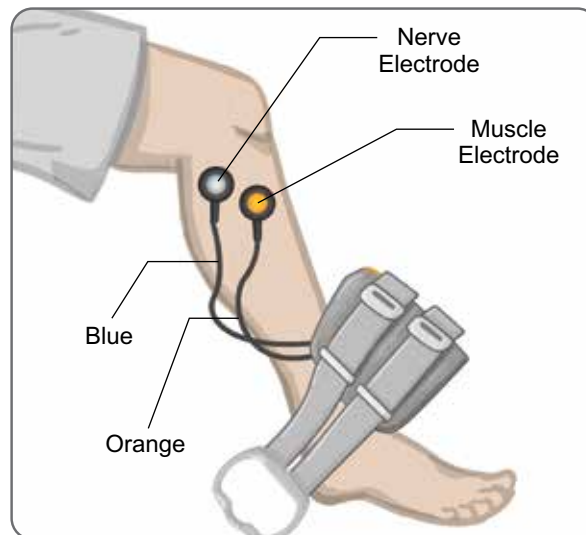

Figure 8-4: Fitting Cable Connected
3. Connect the orange ends of the fitting cable to the muscle electrode base and the orange cuff plug hole. See Figure 8-4.
4. Connect the blue ends of the fitting cable to the nerve electrode base and the blue cuff plug hole. See Figure 8-4.
5. Place the Lower Leg Cuff next to the patient's foot. See Figure 8-4.